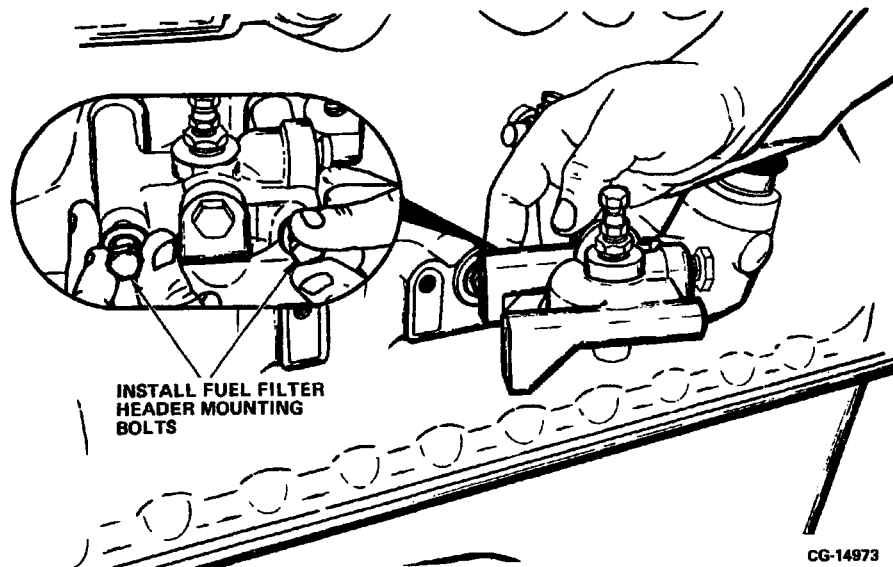

Figure 11.81. Install Fuel Filter Header
7. Install the fuel filter header as follows: (Refer to Figure 11.81)